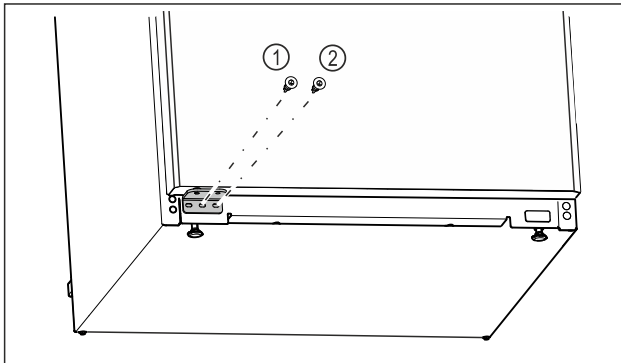

Fig. 23
- Tighten the middle screw of the swap bearing block Fig. 23 (1) with a Torx 20 screwdriver.
- Tighten the inner screw of the swap bearing block Fig. 23 (2) with a Torx 20 screwdriver.